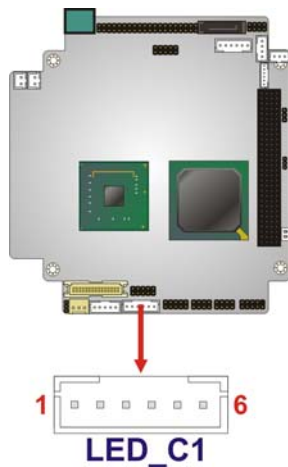

Figure 3-13: LED Connector Locations
- CN Location:** See **Figure 3-13**